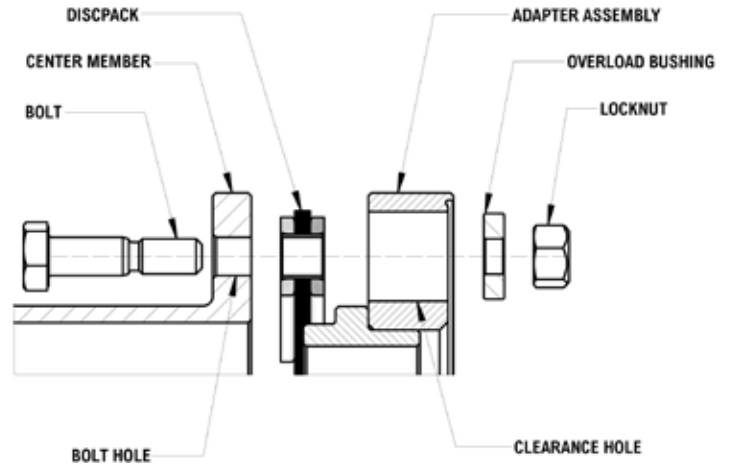

Figure 11B
9.7 Insert all the remaining bolts through the center member bolt holes and disc pack as shown in Figure 11B.